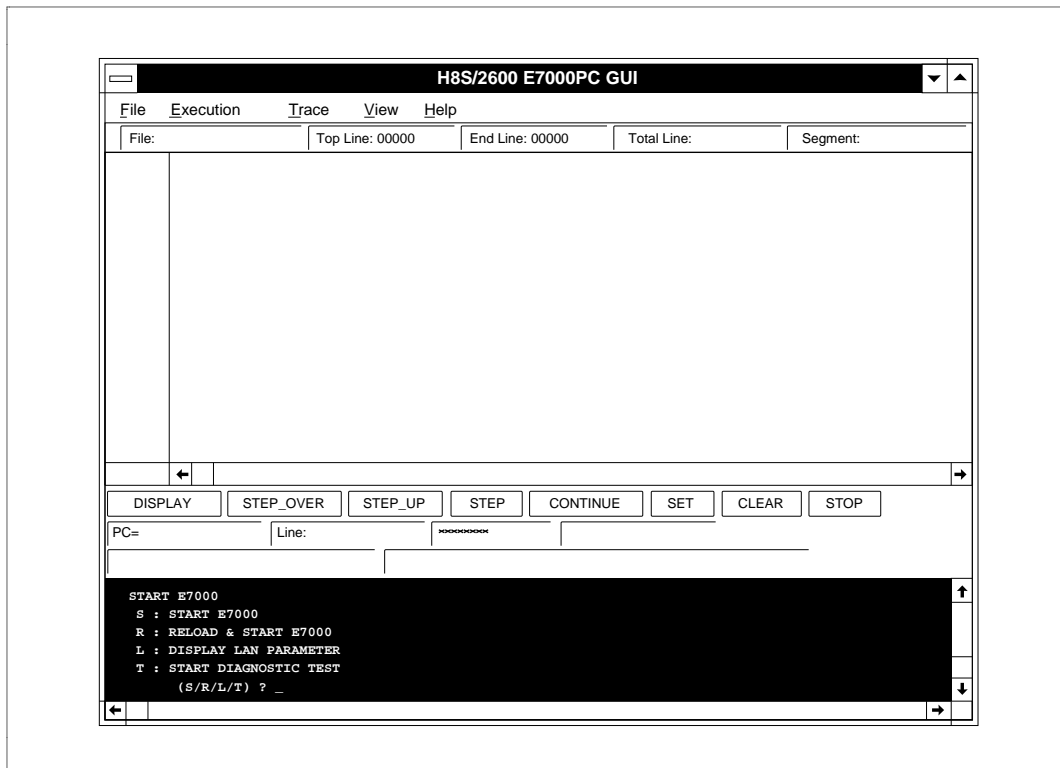

Figure 4-2 Display at GUI-2600 Initiation
- (1) Place the mouse pointer on the GUI-2600 application icon.
- (2) Double-click the left button of the mouse.
- (3) The GUI-2600 base window shown in figure 4-2 appears.
- (1) Press the (Ctrl + Tab) keys to select the GUI-2600 group window. When selected, the window title is highlighted.
- (2) Press the (←) or (→) key to select the GUI-2600 application icon. When selected, the icon title is highlighted.
- (3) Press the (Enter) key.
- (4) The GUI-2600 base window shown in figure 4-2 appears.